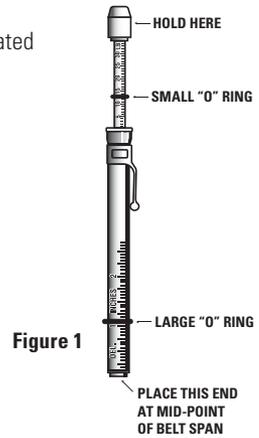

Figure 1
2. Set the small "O" ring at zero (See Fig. 1) and press down the Tensiometer at the center of the belt span.